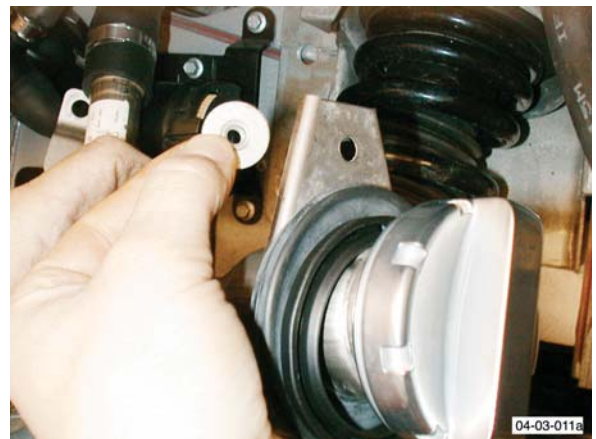

Fig. 1
7. Remove nut securing fuel filler pipe to body and tie filler pipe aside (see Fig. 1).